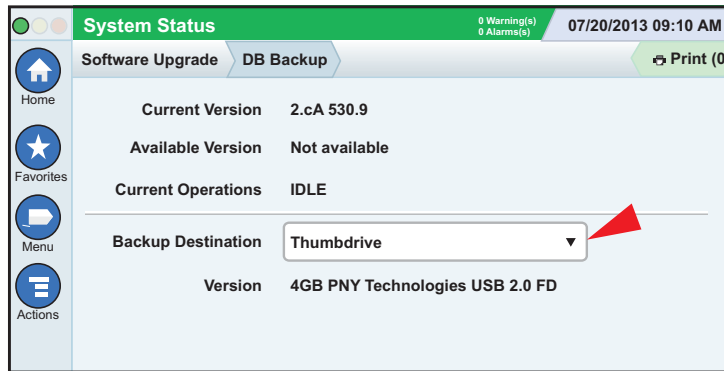

Figure 2. DB Backup Screen
2. As a precaution, prior to replacing system modules perform a DB Backup. From the Home Screen touch **Menu > Software Upgrade > DB Backup** to view the Database Backup Screen (see Figure 2). Touch the down arrow in the Backup Destination field to select the Backup thumbdrive inserted in Step 1, then follow the on-screen instructions to backup TLS-450PLUS console data.